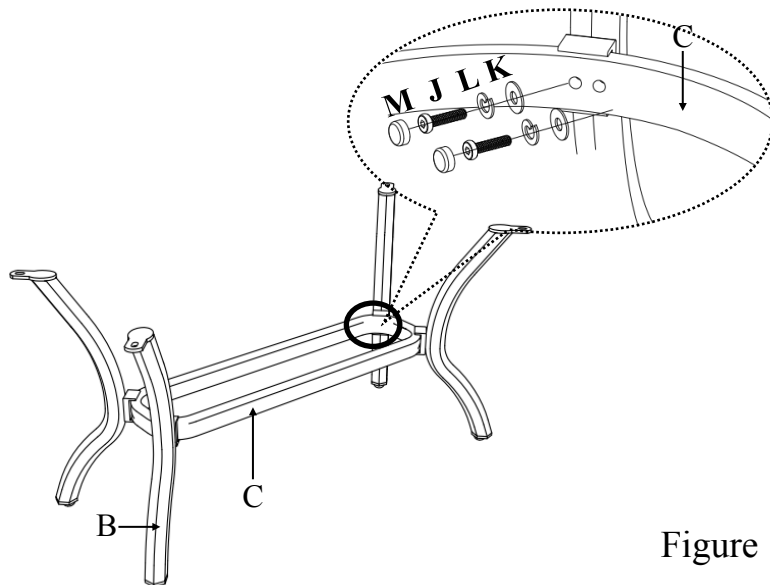

Figure 1
**1** Remove all protective material carefully. Avoid cutting the surface of the furniture while removing the packaging material. From the inside of the leg connector or brace (C), loosely attach the leg connector brace (C) to the legs (B) with the bolts (J) through the small flat washers (K), small lock washers (L) using hex screw driver (O). As shown in figure 1.